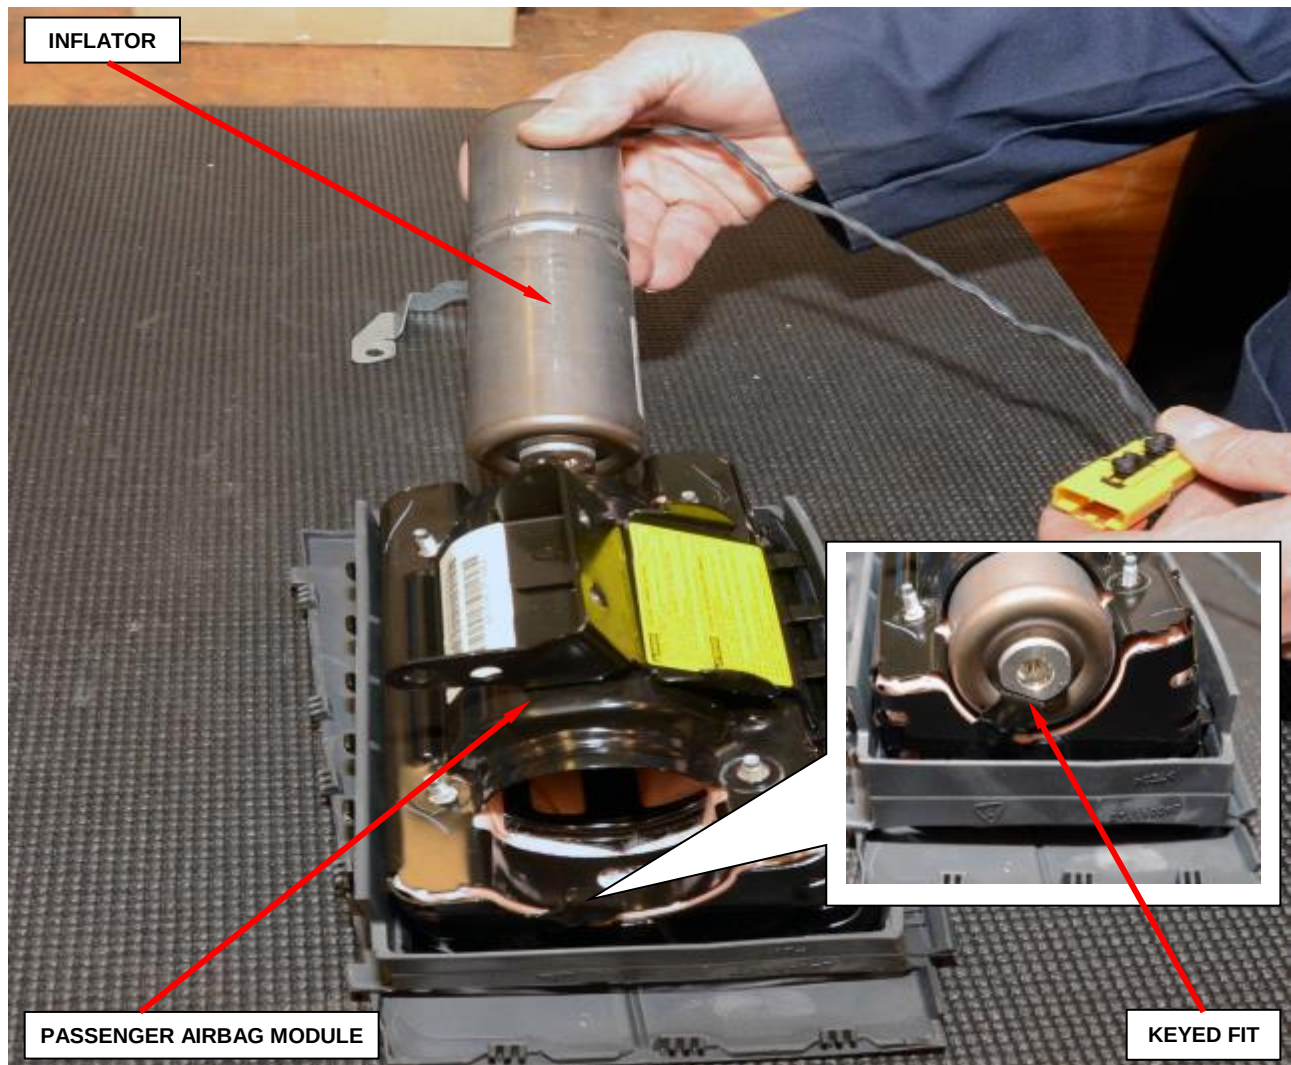

Figure 154 – Passenger Inflator Installation
- h. Remove airbag cushion from housing by applying pressure to the bolts, set cushion aside (Figure 154).